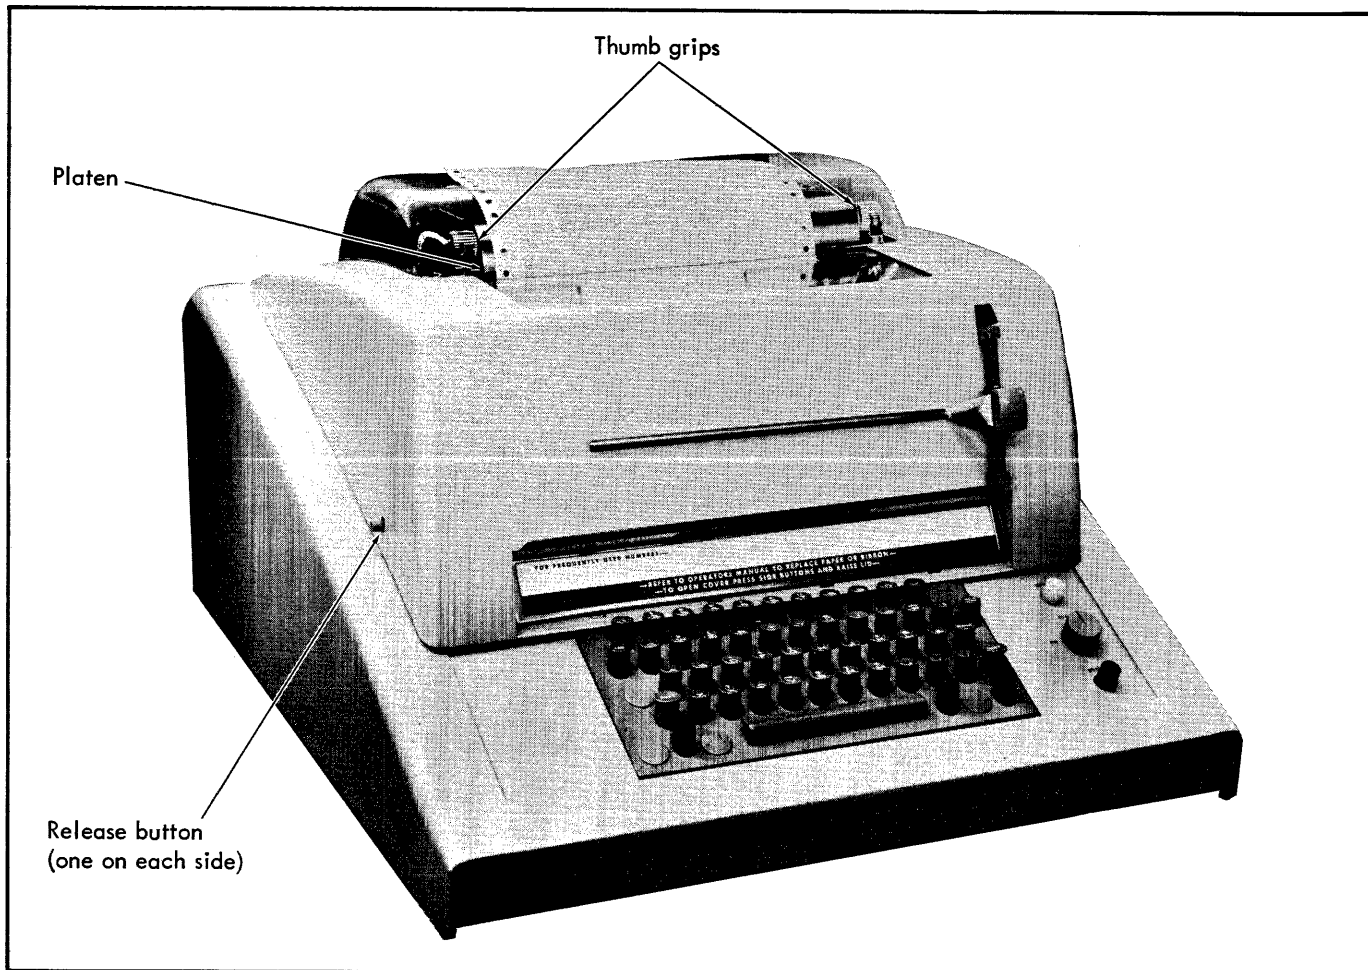

Figure 6. Top View of KSR Unit
1. Press and hold the two release buttons (see Figure 6 or 7) located on the lower front sides of the upper cover. Lift cover.